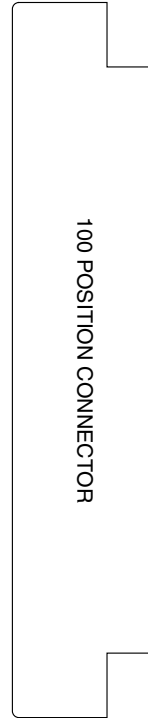

Figure 2. TB-2635 Terminal Reference
7. Connect the wires to the terminals by inserting the stripped end of the wire into the terminal. Secure the connection by tightening the screw for each terminal. When connecting the signals, refer to the connection diagram in Figure 2.